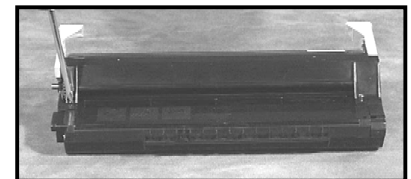

Figure 1
1. With the cartridge insertion arrow pointing towards you, locate and remove the two screws located in front of the green handles (fig. 1).